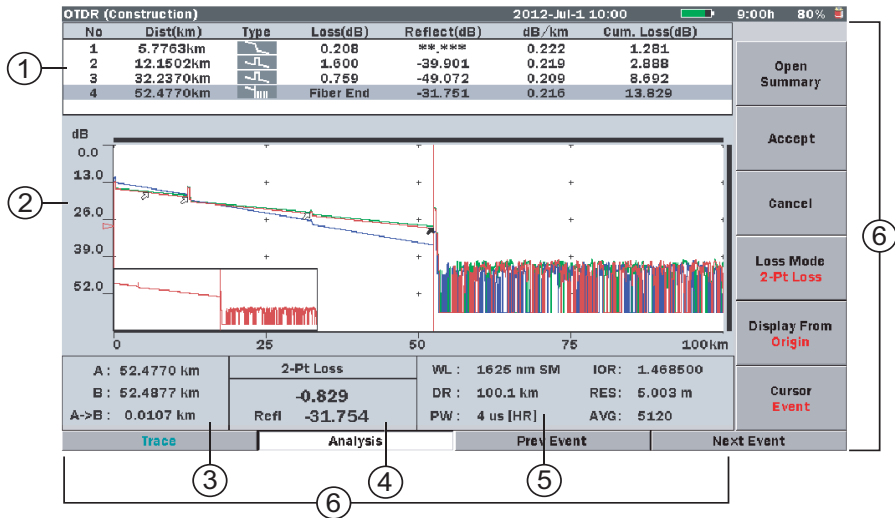

Figure 6-19: Test Results screen with Summary Closed
The Cursor Distance information (see item 3 in Figure 6-19 on page 6-51) displays the following:
The Loss Mode, Measurement, and Reflectance area (see item 4 in Figure 6-19 on page 6-51) displays the following: